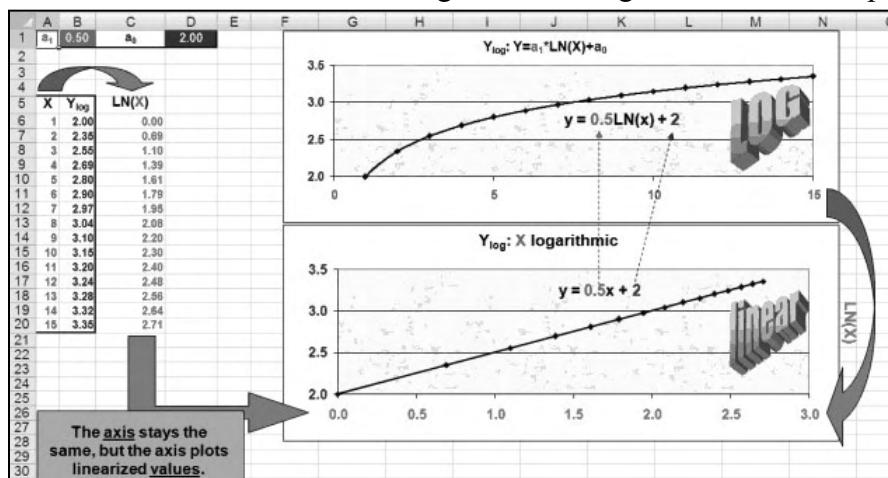

Figure: 4.14
- Logarithmic: Figure 4.14 represents a logarithmic case. At any time, you can “linearize” a logarithmic curve by linearizing the x values (in column A) via the `LN` function used in column C. The top graph uses the original values from column A on its x axis. The bottom graph, on the other hand, uses the linearized values of column C on its x axis instead. Notice the linear regression line in the bottom graph versus the logarithmic regression line in the top graph. The logarithmic equation (in the upper graph) has the same slope and intercept as the linear equation (in the lower graph).